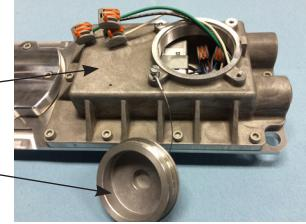

Figure 8
1. Open the threaded wiring access cap (see Figure 8) and allow the cap to hang by the lanyard. All components in the fixture are pre-wired so only input power needs to be connected in the fixture to the lead wires (or terminals) per the wiring diagrams (see Figures 10 and 11) using methods that comply with all applicable codes. Terminate the equipment grounding conductor (green) first, the common (white) next, and finally, the line voltage (black) last. For DC voltage applications, connect the positive (+) lead to the white wire and the negative (-) lead to the black wire. Tighten all electrical connections. Note - Standard openings are 3/4" NPT.
4. Open the threaded wiring access cap (see Figure 8) and allow the cap to hang by the lanyard.
7. Remove the ten (10) socket head cap screws and lock washers from the driver cover using a 5mm hex wrench or bit.